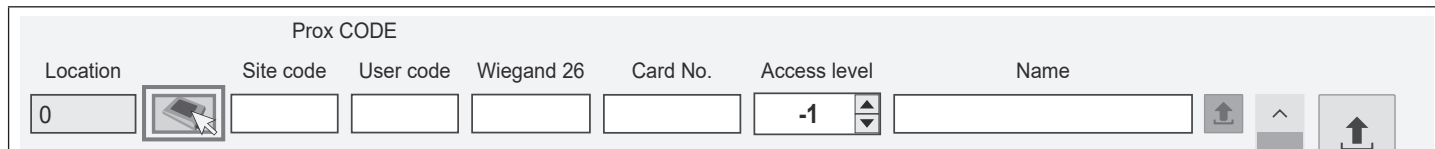

Fig. 60
- Click on the desktop prox icon next to the location where the fob/card is going to be stored, as shown in **Fig.60**.